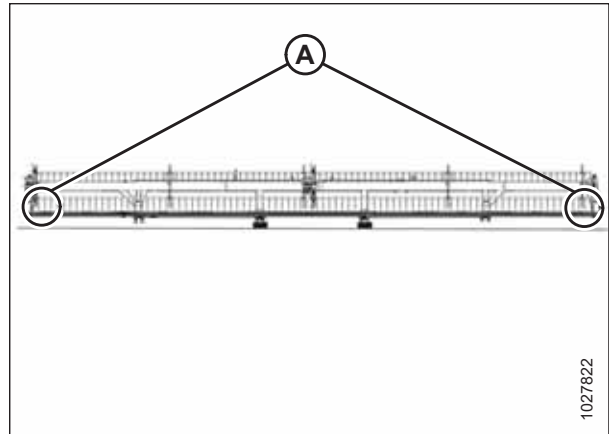

Figure 5.19: Double-Reel Measurement Locations
3. Measure clearance at locations (A) between reel and both endsheets. The clearances should be the same if the reel is centered. To see locations (A) in greater detail, refer to Figure 5.19, page 132.